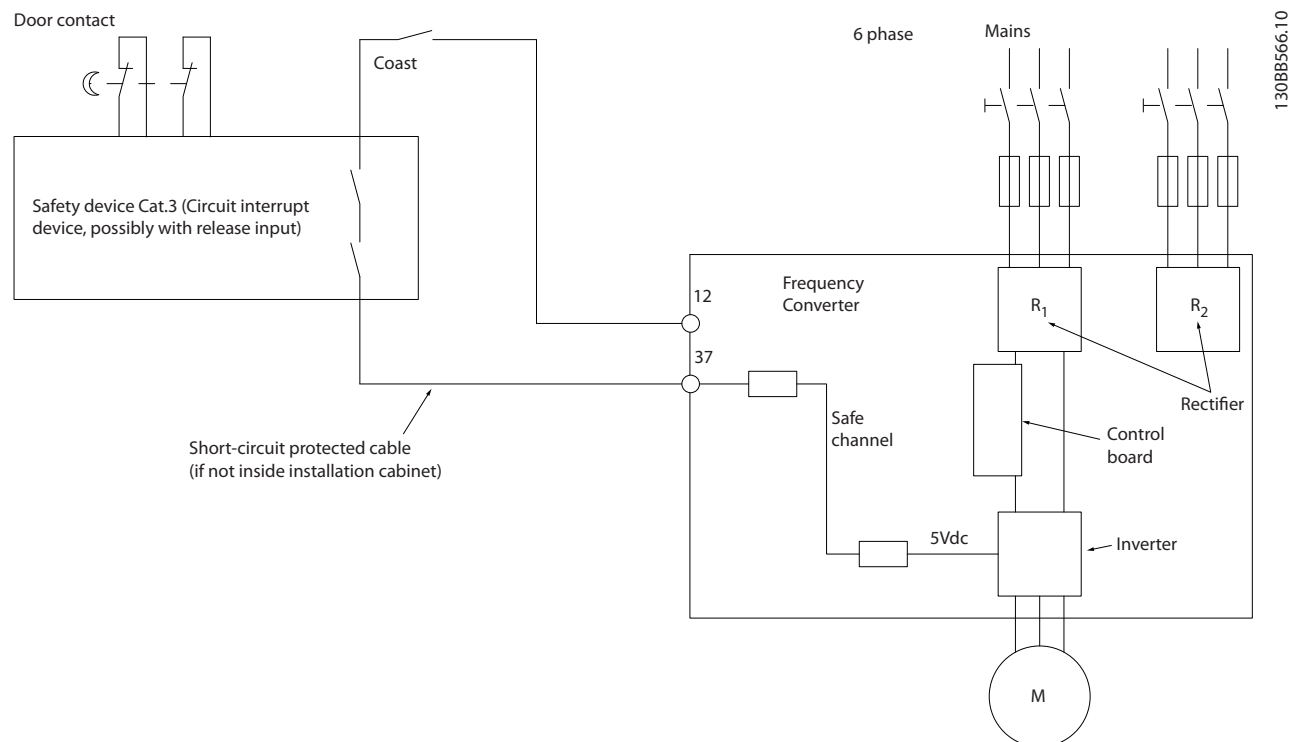

Figure 2.2 Essential aspects of an installation to achieve a Stopping Category 0 (EN 60204-1) with safety Category 3 (EN 954-1).
*Figure 2.2* shows a Stopping Category 0 (EN 60204-1) with safety Category 3 (EN 954-1). The circuit interrupt is caused